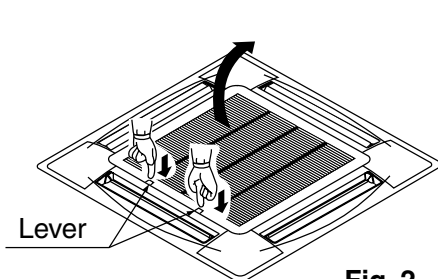

Fig. 2
- 2 Detach the suction grille from the decoration panel by lifting the grille up approximately 45 degrees. **(Refer to Fig. 2)**
1 Push the suction grille lever inward and lift up the lever side. (Refer to Fig. 2)